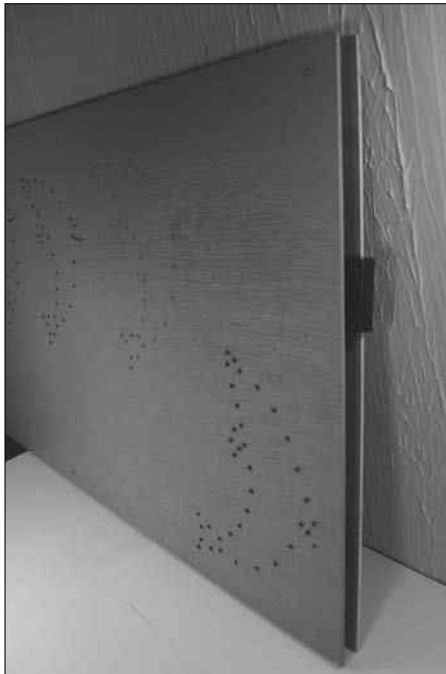

Figure 10-24:
- c. To finish off the project, secure the second plywood sheet to the six standoffs using 6-32 screws, as shown Figure 10-24.*